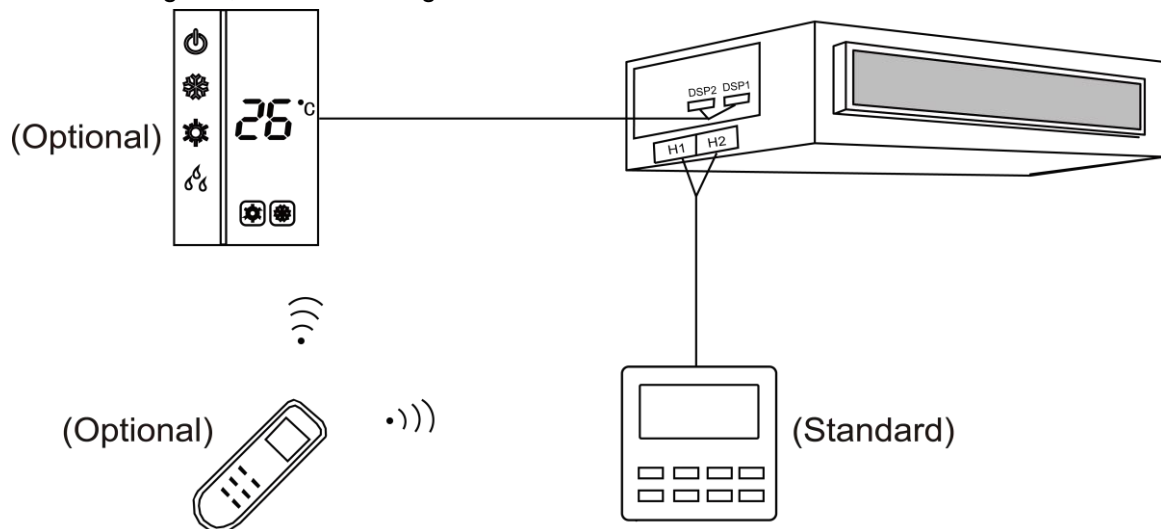

Fig 5.4.3
3) Wired controller and receiving light board can be used on the same unit. When operating through a remote controller, both wired controller and the receiving light board can receive the signals, as shown in Fig. 5.4.3.